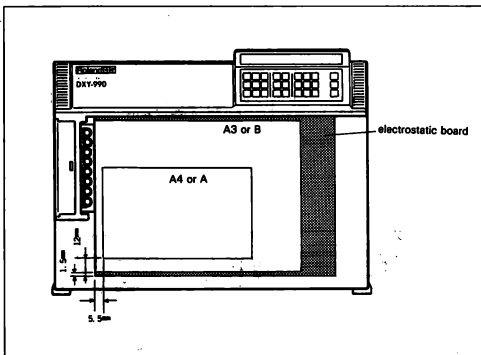

Fig. 2-11
- 3) Set the paper according to the size shown in Fig. 2-11.